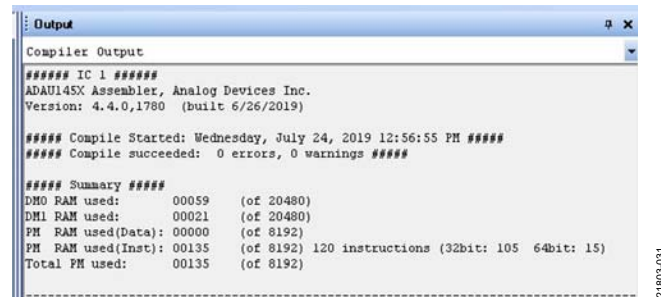

Figure 31. **Compiler Output** Window
- The **Output** window shown in Figure 31 is open by default at the time of compilation and displays a compiler output log. Open or close the **Output** window by using the keyboard shortcut, **Ctrl + 4**. The **Output** window shows the compiler output log only if it is open when the **Link/Compile/Download** button is clicked.